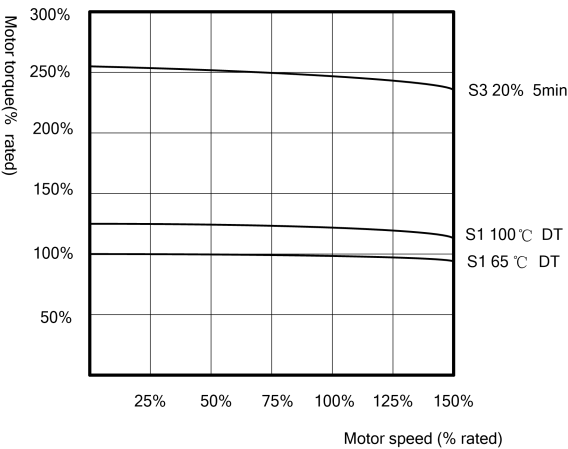

Fig.6-2 Motor characteristic curve
- (1) Motor rated speed selection:
- Motor (PMSM) characteristic curve as shown in Fig. 6-2:
According to Fig.6-2, with the upgrading of the motor speed, motor torque will gradually decline. But when the speed exceeds 150% of rated speed, servo motor gradually saturated, motor torque will decline rapidly, so the speed stage can not be used as servo motor speed period. Therefore, it is recommended to select 140% of the rated speed as the maximum speed of the motor ($N_{max} \text{ (rpm)} = N \text{ (rpm)} \times 140\%$).
According to the motor characteristic curve in Fig. 6-2, it can be observed that the overall working state of the servo motor is between (S1 100℃ DT) and (S3 20% 5MIN). Since the the injection molding machine needs continuous high torque output when holding pressure, the torque curve of the servo motor is in a high torque state, which can be observed from the curve in the figure. It is recommended to select a motor type with a maximum torque of 180% of the rated torque.